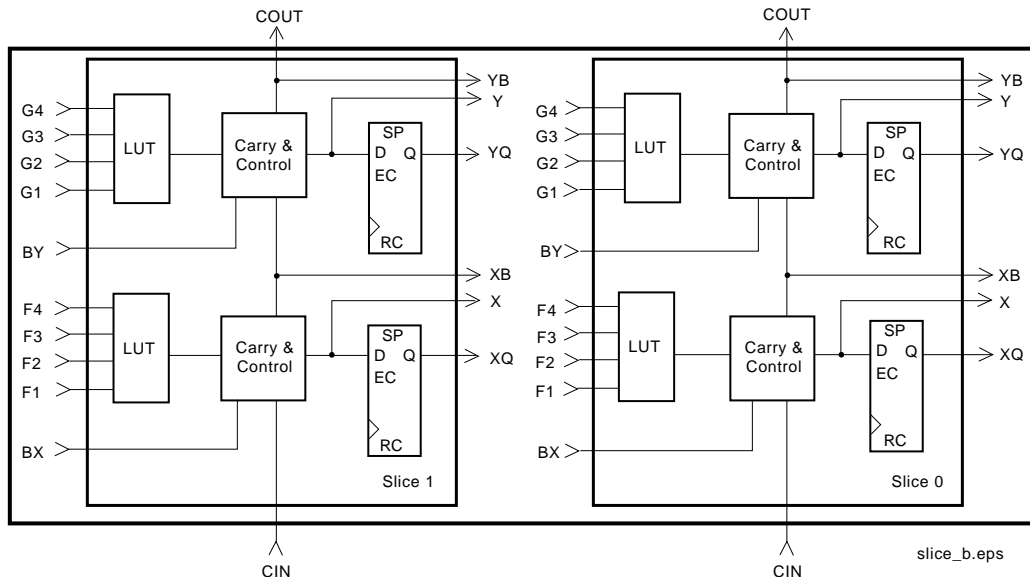
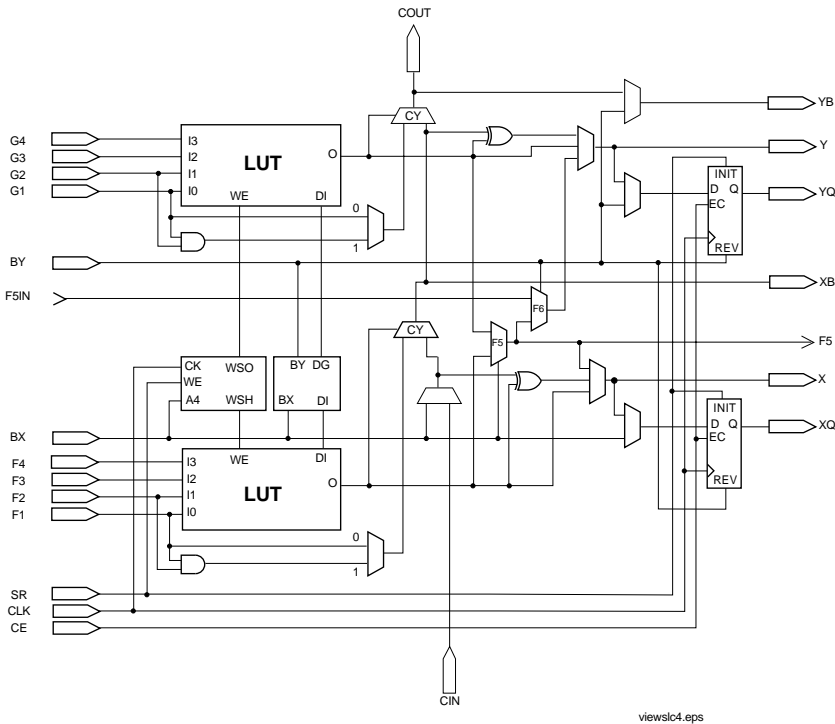

Figure 4: 2-Slice Virtex CLB
Figure 5: Detailed View of Virtex Slice
The basic building block of the Virtex CLB is the logic cell (LC). An LC includes a 4-input function generator, carry logic, and a storage element. The output from the function generator in each LC drives both the CLB output and the D input of the flip-flop. Each Virtex CLB contains four LCs, organized in two similar slices, as shown in Figure 4. Figure 5 shows a more detailed view of a single slice.